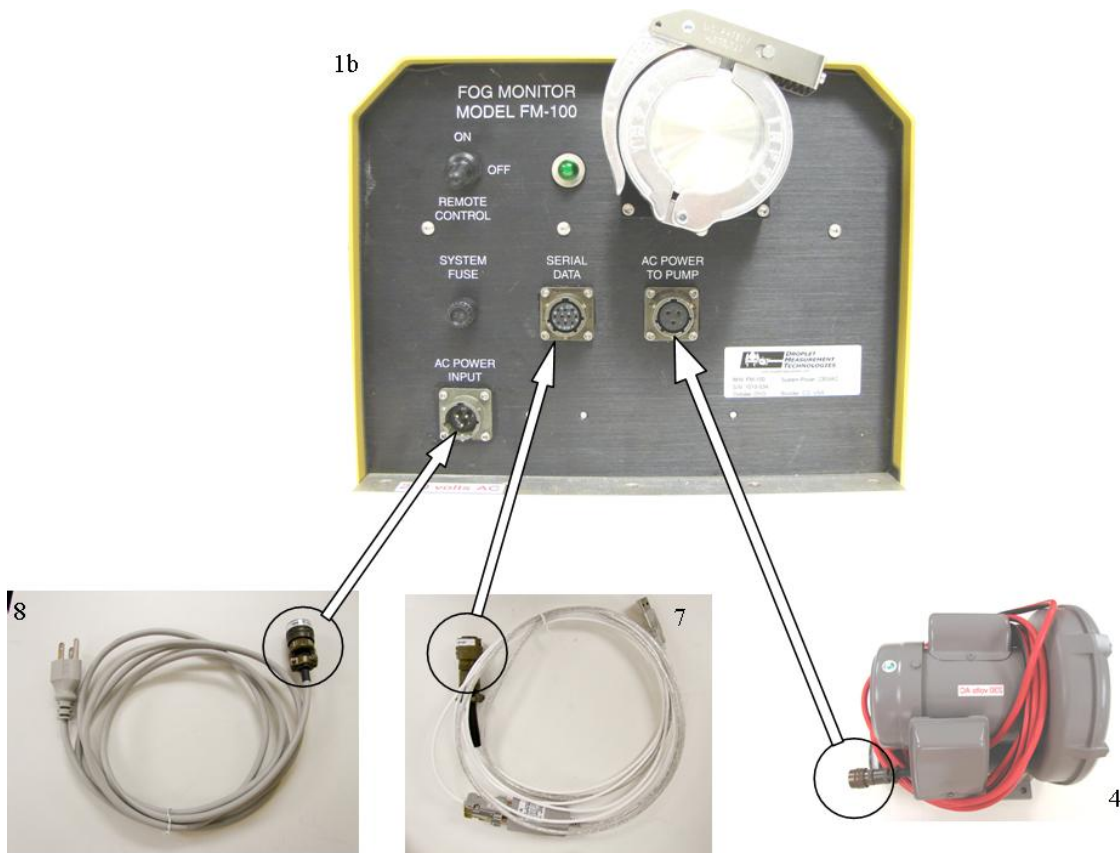

Figure 6: Connecting the Serial Data Cable, Power Cable, and Pump Power Cable to the Particle Sensor
3. Connect the FM-100 power cable (8) to the **AC POWER INPUT** on the particle sensor (1b) (Figure 6).
4. Connect the data cable (7) to the **SERIAL DATA** receptacle (1b) (Figure 6).
5. Connect the pump power cable (4) to the **AC POWER TO PUMP** receptacle (1b) (Figure 6).